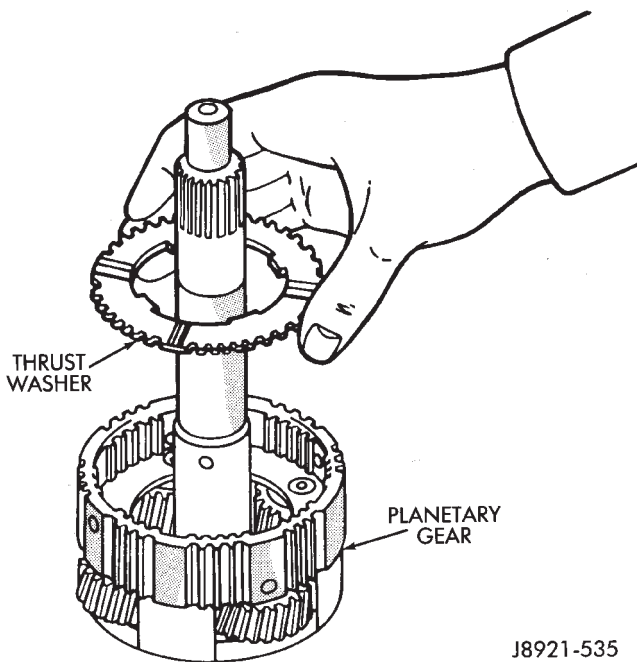

Fig. 15 Removing Planetary Thrust Washer
(17) Remove planetary thrust washer (Fig. 15).